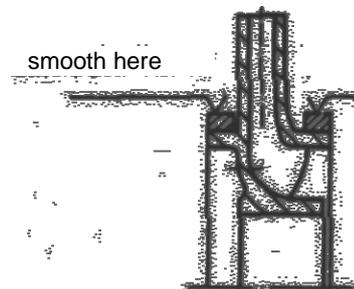

Fig. 03 Smoothing out the throttle sections on the impeller wearing rings.
3. Smooth down all impellers (230, 231) in the region of the fitted impeller wearing rings (503) to a common diameter, basing this on the most heavily scored impeller wearing ring. Single deep grooves can be left untouched (see fig. 03).